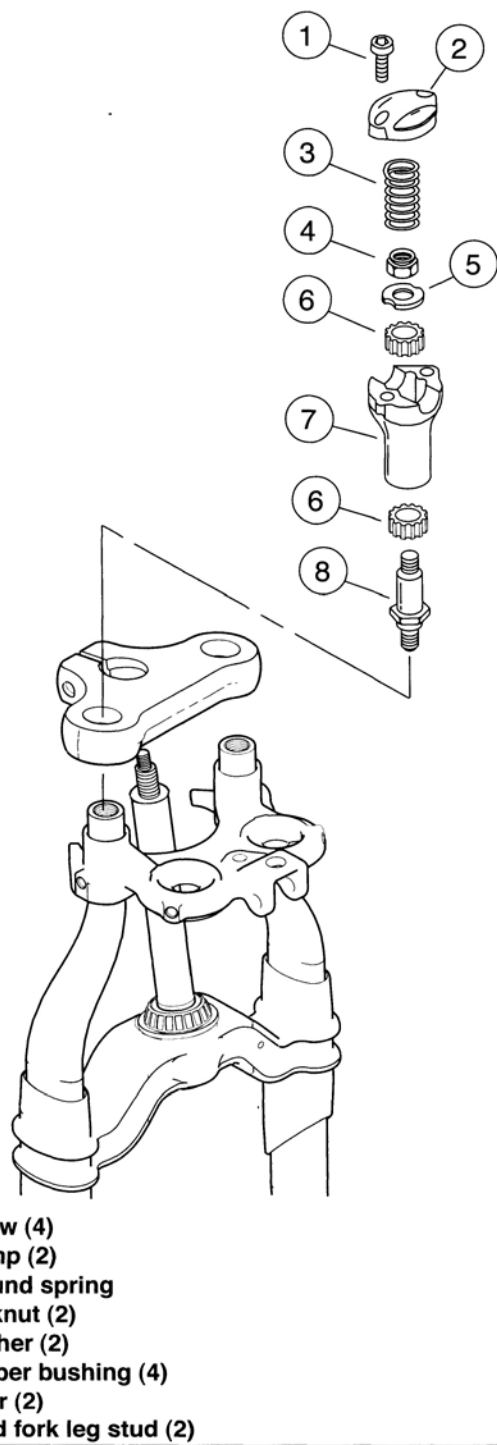

Figure 2-98. Handlebars: FLSTSB
6. See Figure 2-98. Remove upper handlebar clamp screws (1).
1. See Figure 2-98. If risers (7) were removed, install lower rubber bushings (6) on rigid fork leg stud (8). Install risers (7), upper rubber bushings (6), washers (5), and locknuts (4).
2. Tighten locknuts (4) to 25-35 ft-lbs (33.9-47.5 Nm)
3. On right side, install ground spring (3).